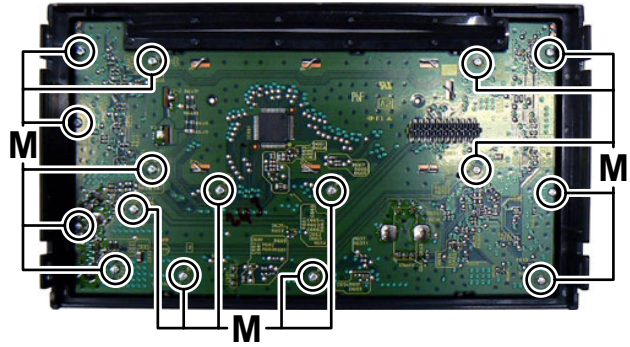

Fig.7
### 3.1.5 Removing the Switch board (See Fig.7)
### 3.2.4 Removing the PHOTO BOARD assembly (See Fig.7 and 8)
- From the bottom side of the top cover, release the projection **e** from the notch of the disc plate. (See Fig.7.)
- Take out the disc plate in the direction of the arrow. (See Fig.7.)